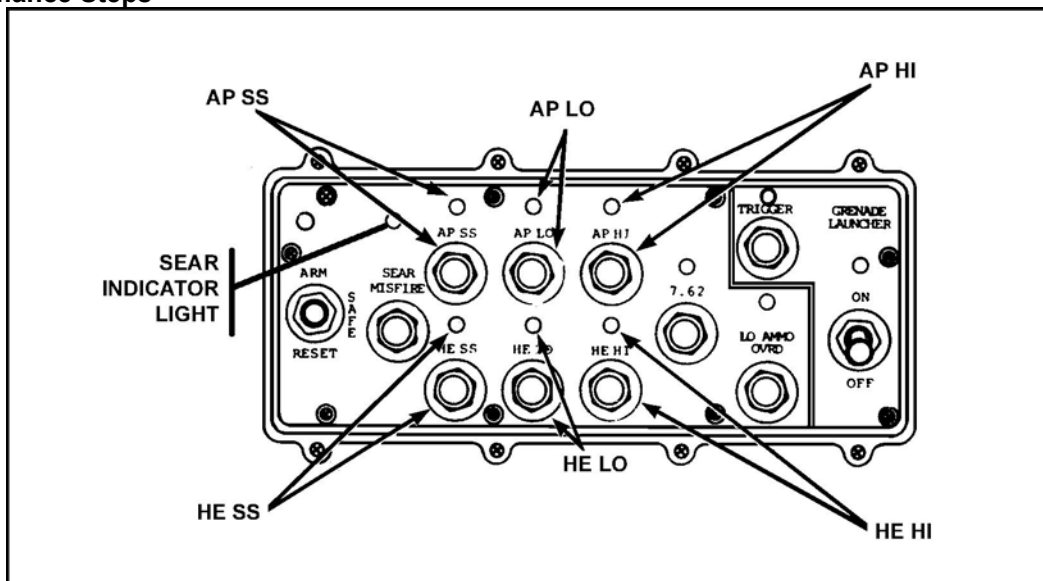

Figure 2. Weapon control box.
- c. Dry fire the 25-mm automatic gun in the AP SS mode (Figure 2).